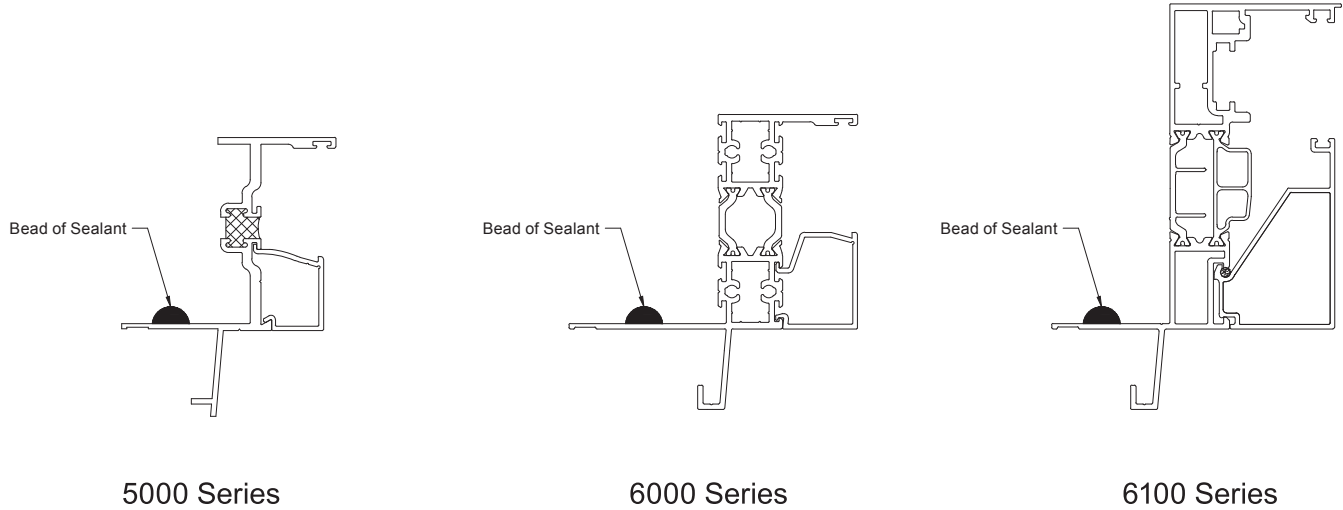
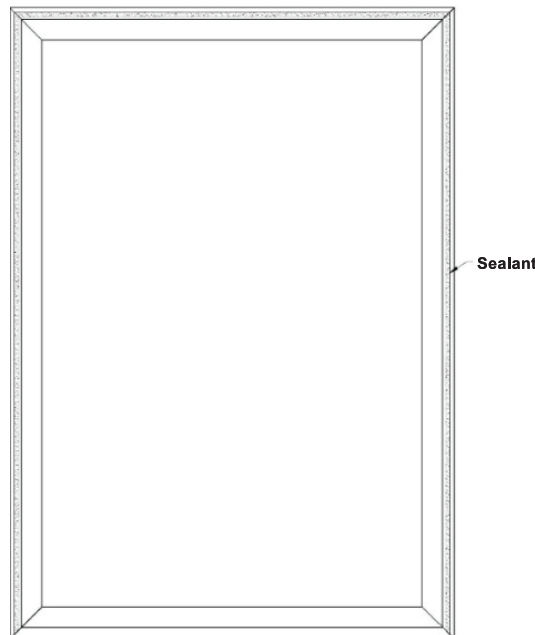

FIGURE 2A
FIGURE 2B
4. Apply a continuous bead of sealant on the nail fin (interior side as shown in Figure 2a) around the perimeter of the head and jambs as shown in Figure 2b. (Sealant should conform to AAMA 802.3-16 and 803.3-16)